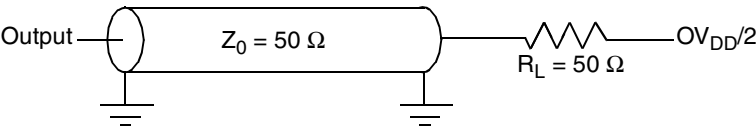
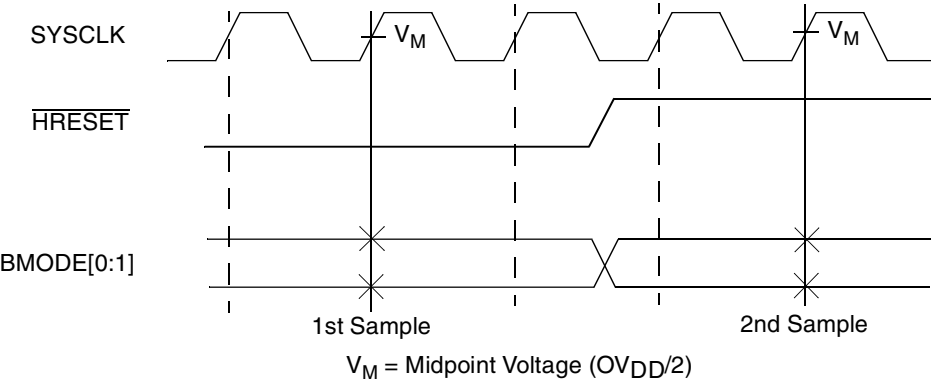
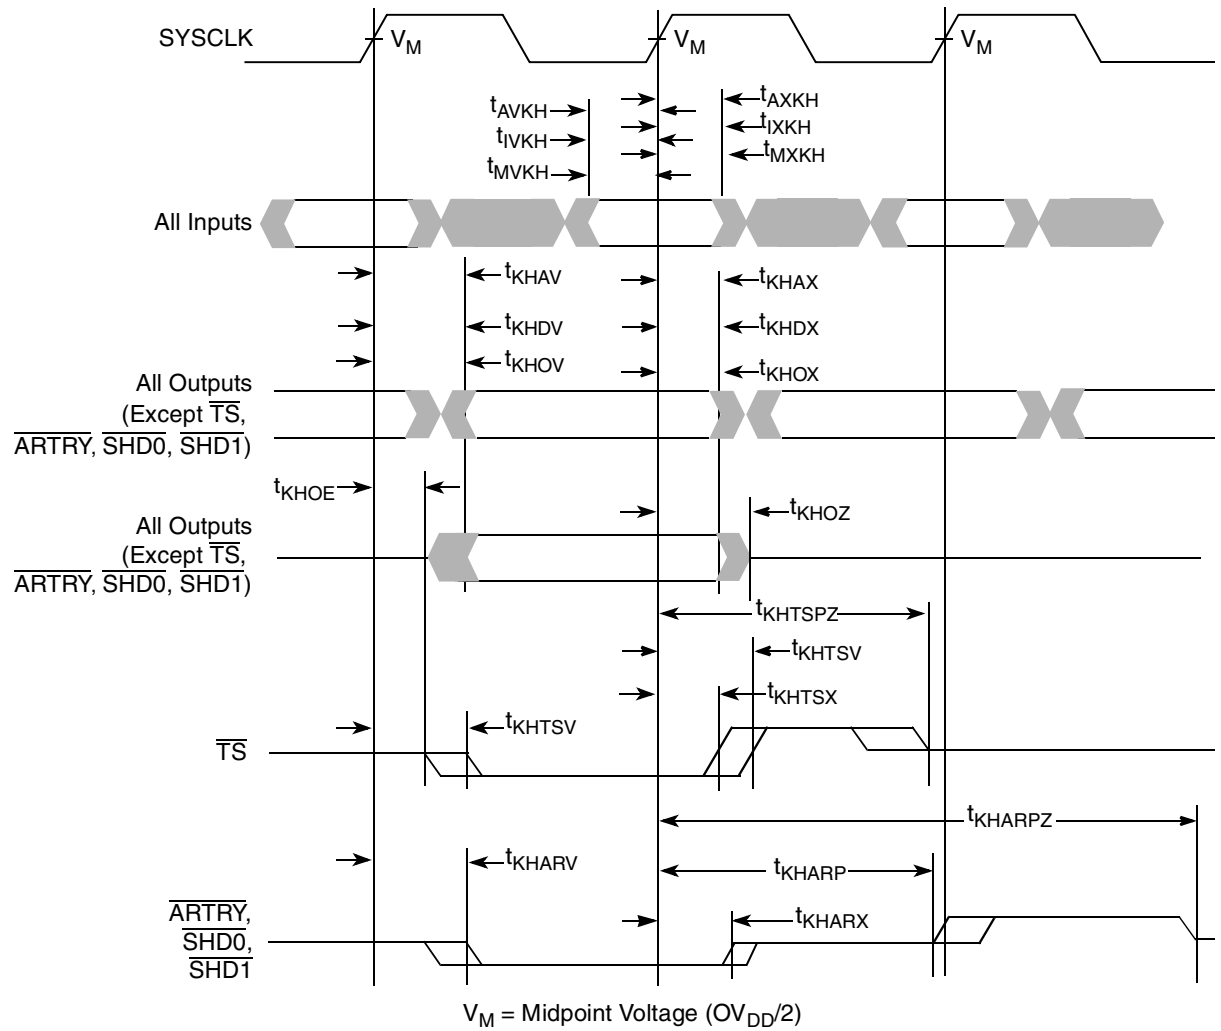

Figure 4. AC Test Load
Figure 5.  $\overline{\text{BMODE}}[0:1]$  Input Sample Timing Diagram
Figure 6. Input/Output Timing Diagram
Table 9 provides the processor bus AC timing specifications for the MPC7448 as defined in Figure 4 and Figure 5.
- All input specifications are measured from the midpoint of the signal in question to the midpoint of the rising edge of the input SYSCLK. All output specifications are measured from the midpoint of the rising edge of SYSCLK to the midpoint of the signal in question. All output timings assume a purely resistive 50-Ω load (see Figure 4). Input and output timings are measured at the pin; time-of-flight delays must be added for trace lengths, vias, and connectors in the system.
- The symbology used for timing specifications herein follows the pattern of  $t_{(\text{signal})(\text{state})(\text{reference})(\text{state})}$  for inputs and  $t_{(\text{reference})(\text{state})(\text{signal})(\text{state})}$  for outputs. For example,  $t_{\text{VKH}}$  symbolizes the time input signals (I) reach the valid state (V) relative to the SYSCLK reference (K) going to the high (H) state or input setup time. And  $t_{\text{KHOV}}$  symbolizes the time from SYSCLK(K) going high (H) until outputs (O) are valid (V) or output valid time. Input hold time can be read as the time that the input signal (I) went invalid (X) with respect to the rising clock edge (KH) (note the position of the reference and its state for inputs) and output hold time can be read as the time from the rising edge (KH) until the output went invalid (OX).
- According to the bus protocol,  $\overline{\text{TS}}$  is driven only by the currently active bus master. It is asserted low and precharged high before returning to high impedance, as shown in Figure 6. The nominal precharge width for  $\overline{\text{TS}}$  is  $t_{\text{SYSCLK}}$ , that is, one clock period. Since no master can assert  $\overline{\text{TS}}$  on the following clock edge, there is no concern regarding contention with the precharge. Output valid and output hold timing is tested for the signal asserted. Output valid time is tested for precharge. The high-impedance behavior is guaranteed by design.
- According to the bus protocol,  $\overline{\text{ARTRY}}$  can be driven by multiple bus masters through the clock period immediately following  $\overline{\text{AACK}}$ . Bus contention is not an issue because any master asserting  $\overline{\text{ARTRY}}$  will be driving it low. Any master asserting it low in the first clock following  $\overline{\text{AACK}}$  will then go to high impedance for a fraction of a cycle, then negated for up to an entire cycle (crossing a bus cycle boundary) before being three-stated again. The nominal precharge width for  $\overline{\text{ARTRY}}$  is  $1.0 t_{\text{SYSCLK}}$ ; that is, it should be high impedance as shown in Figure 6 before the first opportunity for another master to assert  $\overline{\text{ARTRY}}$ . Output valid and output hold timing is tested for the signal asserted. The high-impedance behavior is guaranteed by design.
- $\overline{\text{BMODE}}[0:1]$  and  $\text{BVSEL}[0:1]$  are mode select inputs.  $\overline{\text{BMODE}}[0:1]$  are sampled before and after  $\overline{\text{HRESET}}$  negation.  $\text{BVSEL}[0:1]$  are sampled before  $\overline{\text{HRESET}}$  negation. These parameters represent the input setup and hold times for each sample. These values are guaranteed by design and not tested.  $\overline{\text{BMODE}}[0:1]$  must remain stable after the second sample;  $\text{BVSEL}[0:1]$  must remain stable after the first (and only) sample. See Figure 5 for sample timing.
Figure 4 provides the AC test load for the MPC7448.
Figure 5 provides the  $\overline{\text{BMODE}}[0:1]$  input timing diagram for the MPC7448. These mode select inputs are sampled once before and once after  $\overline{\text{HRESET}}$  negation.
Figure 6 provides the input/output timing diagram for the MPC7448.